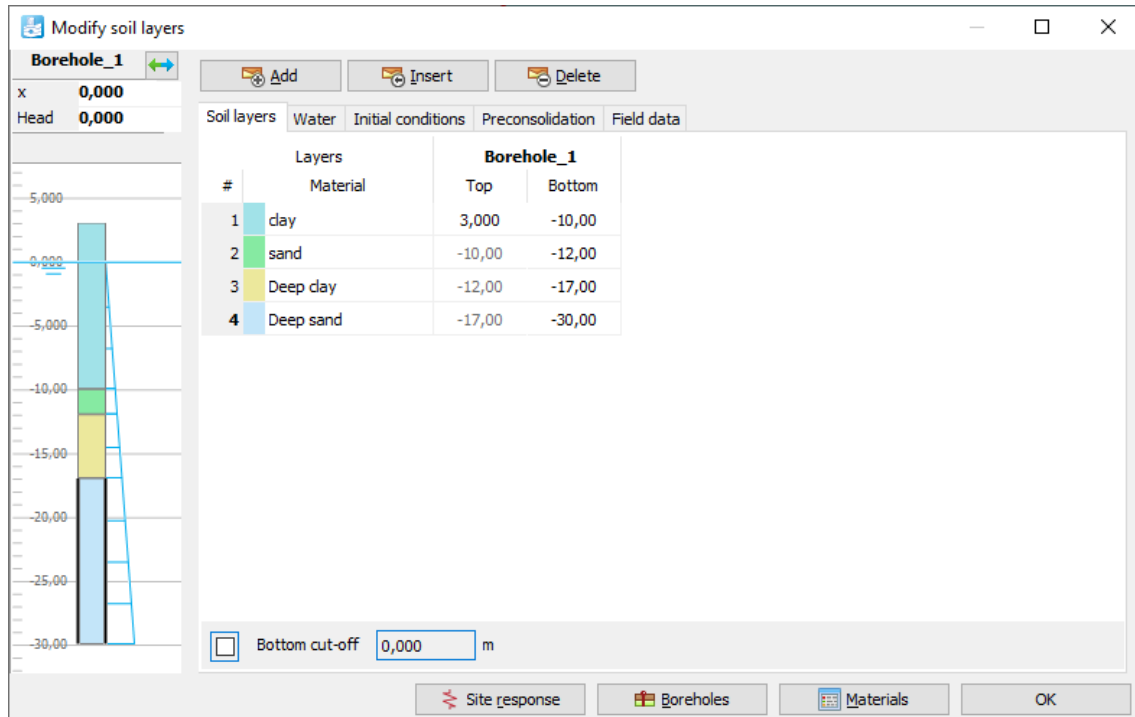

Figure 58: The soil stratigraphy in the **Modify soil layers** window
2. Create the soil stratigraphy as shown in Figure 58 (on page 74).